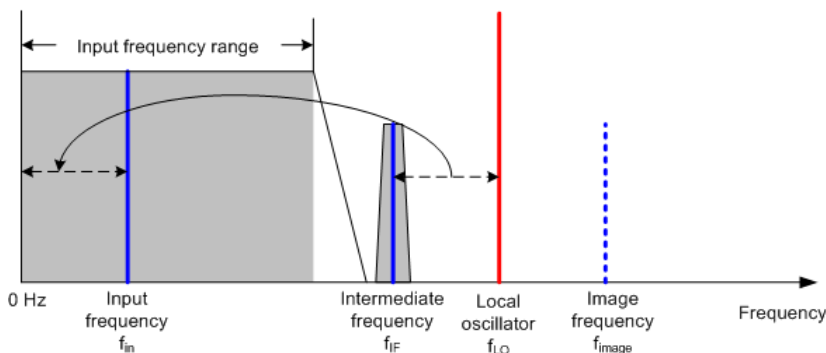

Figure 9-3: Mixing process
The mixer converts the RF signal to a fixed intermediate frequency (IF). This process usually involves several stages. It lasts until you get an IF for which good narrowband filters are available. The R&S ZVH needs three mixing stages to get an IF that the filter can handle. Figure 9-3 graphically shows the mixing process.